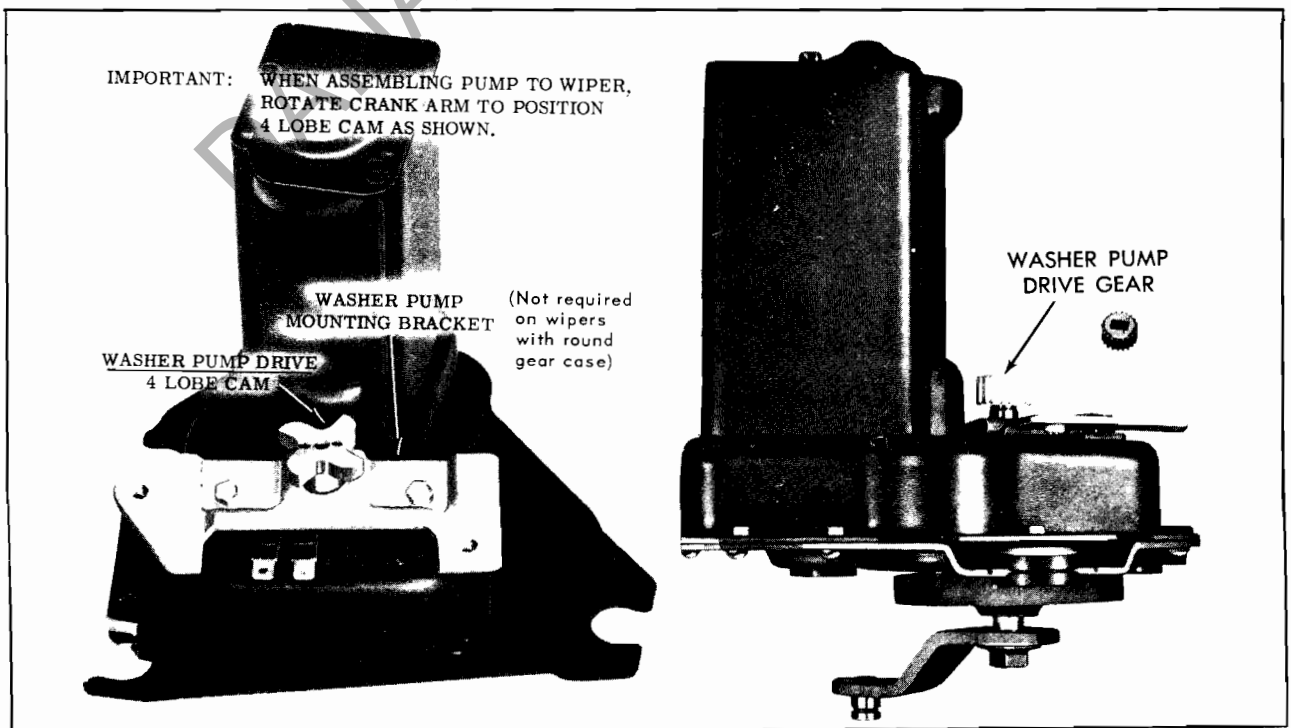

FIGURE 19
- (b) Remove the washer pump drive gear or 4 lobe cam (Figure 19). These parts are a press fit on the wiper gear shaft and it will be necessary to use a small puller.
Support crank arm end of wiper output shaft (threaded end), and using a suitable mallet drive the washer pump drive gear or 4 lobe cam on the wiper output shaft until it bottoms against the shoulders of the shaft flats. Figure 19.
- (c) When washer pump is cam (4 lobe) driven, position cam as shown in Figure 19. (It may be necessary to manually rotate crank arm).